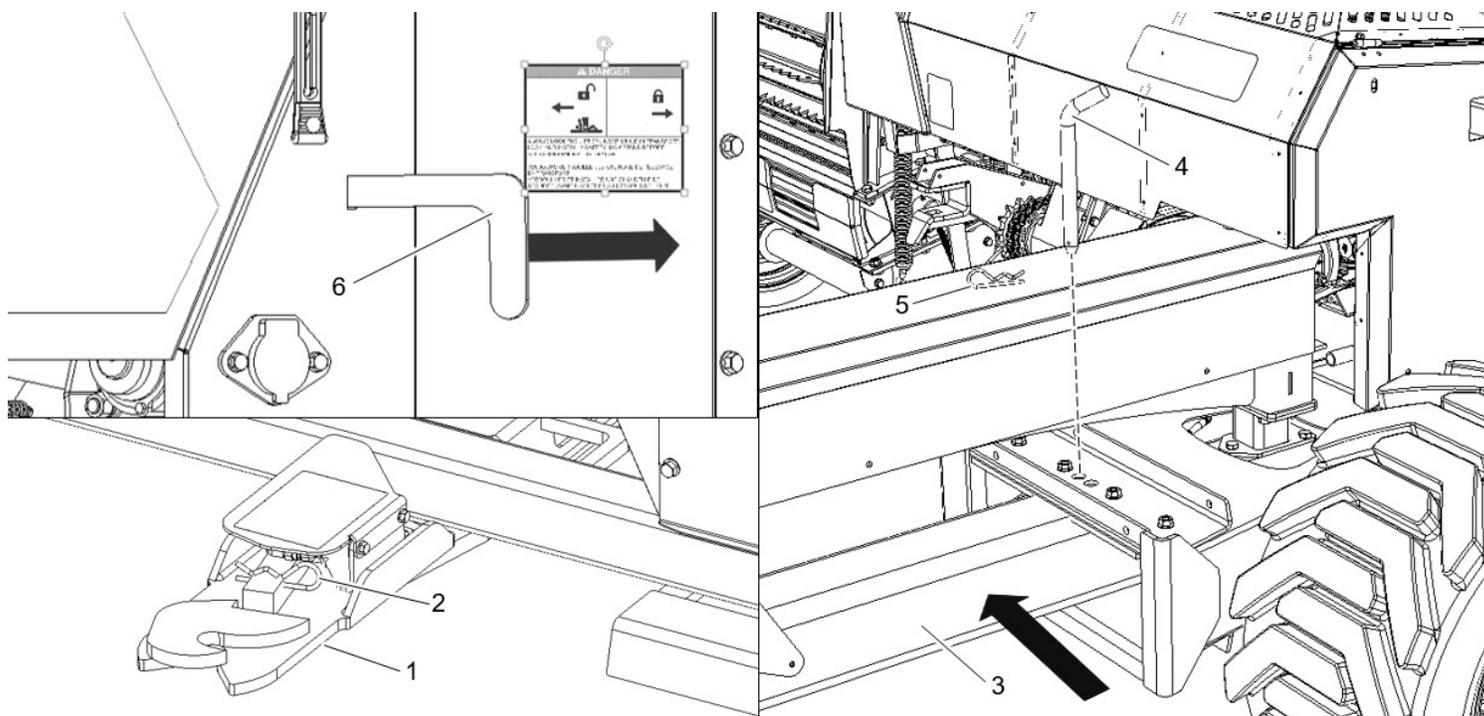

Figure 90 Transport on public roads
TRANSPORT ON PUBLIC ROADS - FIGURE 90
2. Set the drawbar (item 3, Figure 90 Transport on public roads) in transport position. Secure it using the locking pin (item 4) provided.
3. Raise the header and lock the lift cylinder by pulling the locking handle completely outwards (See item 6, FIGURE 90 Transport on public roads).